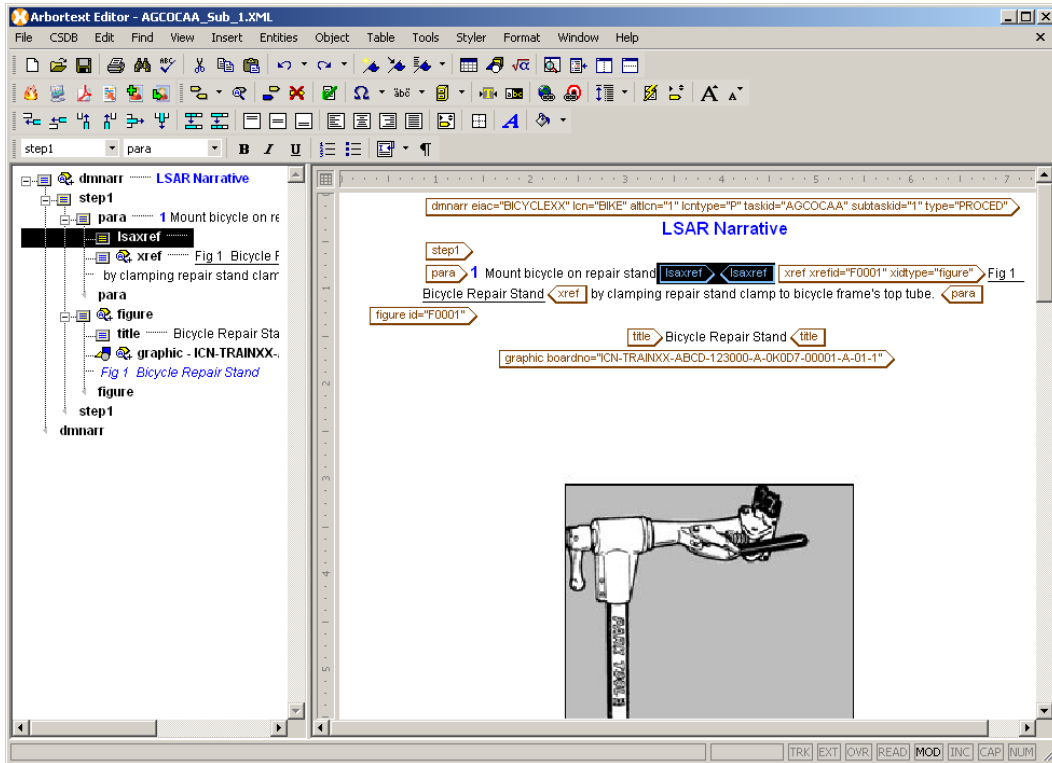

Figure 4. <isaxref> Element Selected.
- Select the Isaxref element that was inserted in the previous step as shown in Figure 4.